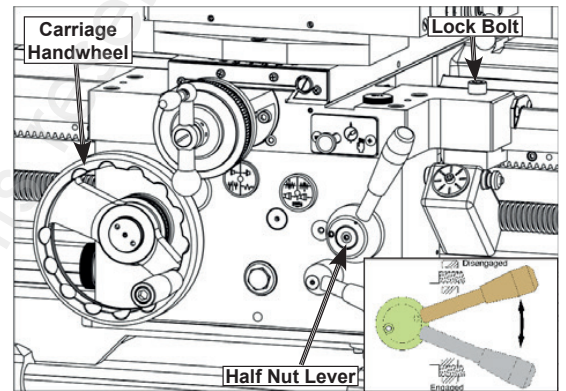

Fig. 10 Carriage controls set for moving the carriage
4. To further balance the load, loosen the carriage lock bolt, disengage the half nut lever, then use the carriage handwheel to move the carriage next to the tailstock. (Figure 10)